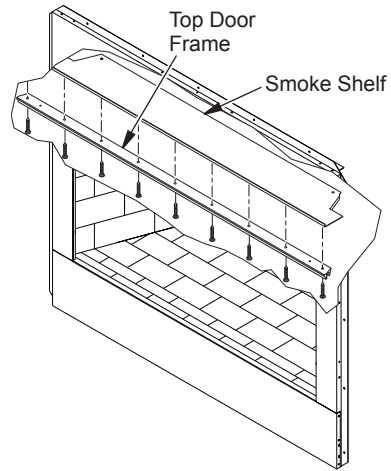

Figure 26 - Installing Top Door Frame
1. Remove screws from smoke shelf (see Figure 26).
2. Mount top door frame and secure with screws provided (see Figure 26).